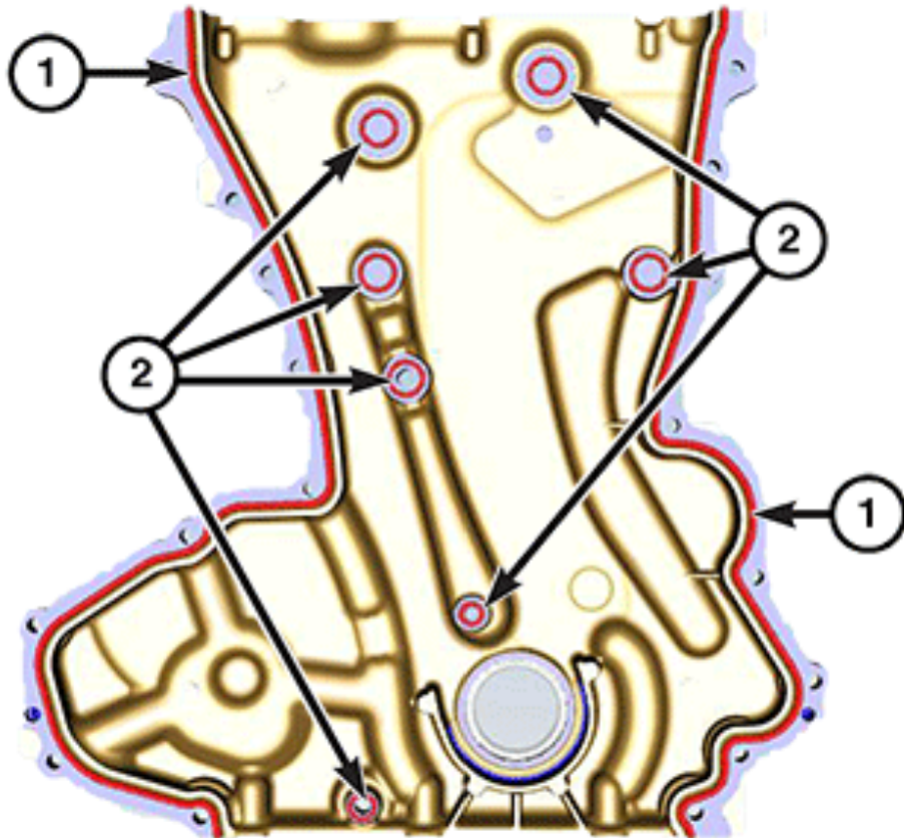

Figure 2: Sealer Locations and Bead Size
6. Apply new sealer, shown in Figure 2 and torque to 7.4 FT/LBS rechecking for leaks.